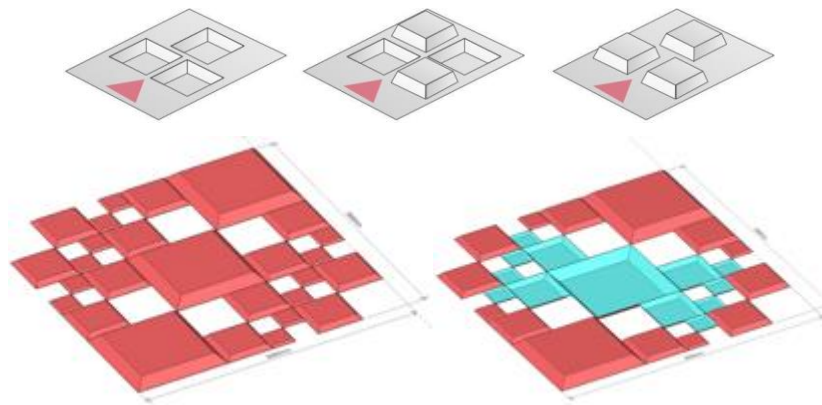

Figure 8-1-3: Examples of combinations to create rough terrain
8.1.1.4.3. S=10~50 Peaks and holes are combined to create rough terrain (See figure: 8-1-3).